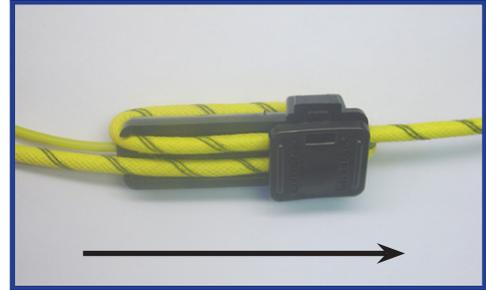

Figure 78 - NONEL Starter detonator connected to detonating cord.
is the result of ground movement from holes that fire earlier in the delay system. Cut-offs may involve certain hazards when using cap sensitive explosives. Hazards from cut-offs can be greatly reduced by applying the proper delay technique to suit the conditions of the blasts (Figure 78).
1. Place the detonating cord pigtail in the Bunch Block parallel to the detonator, wrap the detonating cord around the bottom of the Bunch Block and then back in the Bunch Block parallel to the detonator and snap the lid firmly closed (Figure 78).